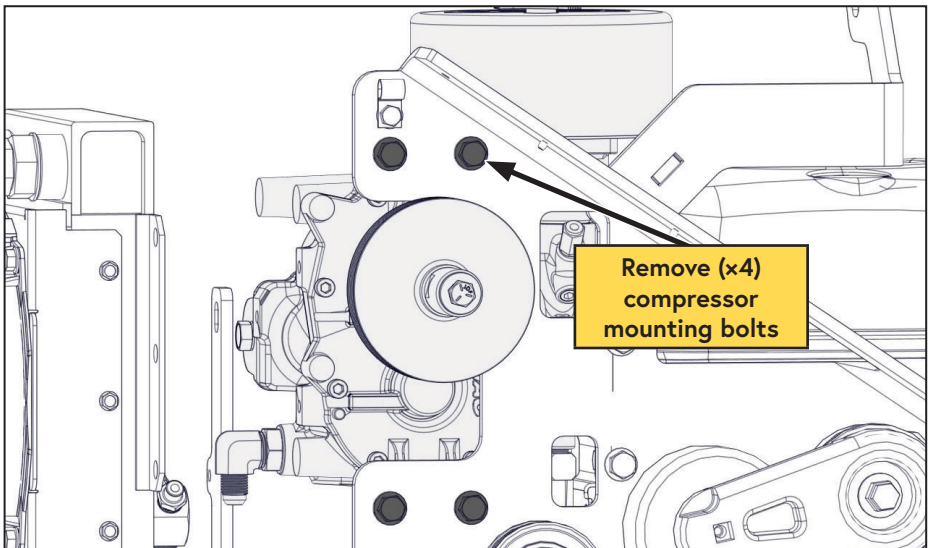

Figure 73 — Remove compressor
- Lift the compressor up and away from the belt guard to remove it (Figure 73).